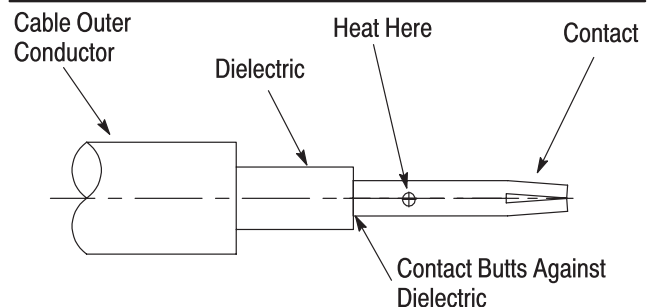

Figure 3
2. Heat the center contact with the soldering equipment and carefully push it over the center conductor so that it butts against the dielectric. It should appear as shown in Figure 3.